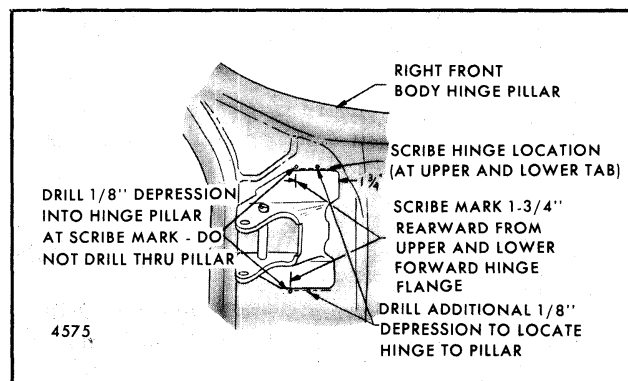

Fig. 5-76-Locating Hinge Position on Body Hinge Pillar - "X" Styles
2. Locate hinge position on body hinge pillar (refer to Fig. 5-76).